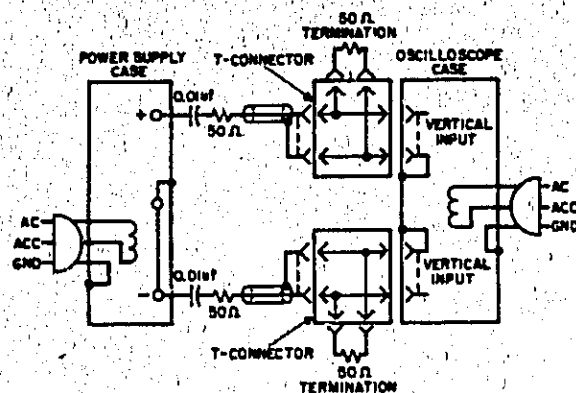

Figure 5-5. CV Noise Spike, Test Setup
1. As shown in Figure 5-5, two coax cables, must be substituted for the shielded two-wire cable.
5-28 The circuit of Figure 5-5 can also be used for the normal measurement of low frequency ripple and noise; simply remove the four terminating resistors and the blocking capacitors and substitute
a higher gain vertical plug-in in place of the wide-band plug-in required for spike measurements. Notice that with these changes, Figure 5-5 becomes a two-cable version of Figure 5-4C.
5-31 The maximum load ratings listed in Figure 5-5 must be observed in order to preserve the mercury-wetted relay contacts. Switching of larger load currents can be accomplished with mercury pool relays; with this technique fast rise times can still be obtained, but the large inertia of mercury pool relays limits the maximum repetition rate of load switching and makes the clear display of the transient recovery characteristic on an oscilloscope more difficult.